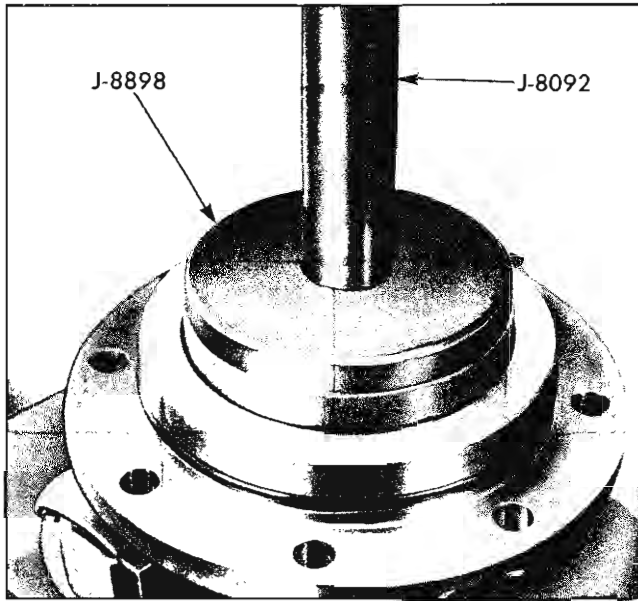

Fig. 4-47 Installing Rear Pinion Bearing Outer Race
1. Install rear pinion bearing outer race using J-8898 with J-8092 handle (Fig. 4-47).
4. Install rear pinion bearing outer race using tool J-8898 with J-8092 handle (Fig. 4-47).